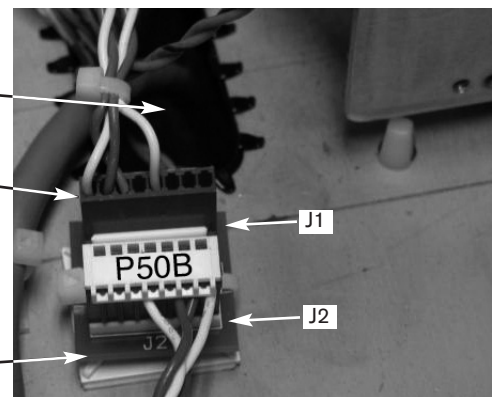

**Figure 2**
1. Place the new PC-104 stack (141024) into the Control Box, and orient it so that the CPU heatsink on B1 is on the same side as the DC Power Supplies (See figure 2).